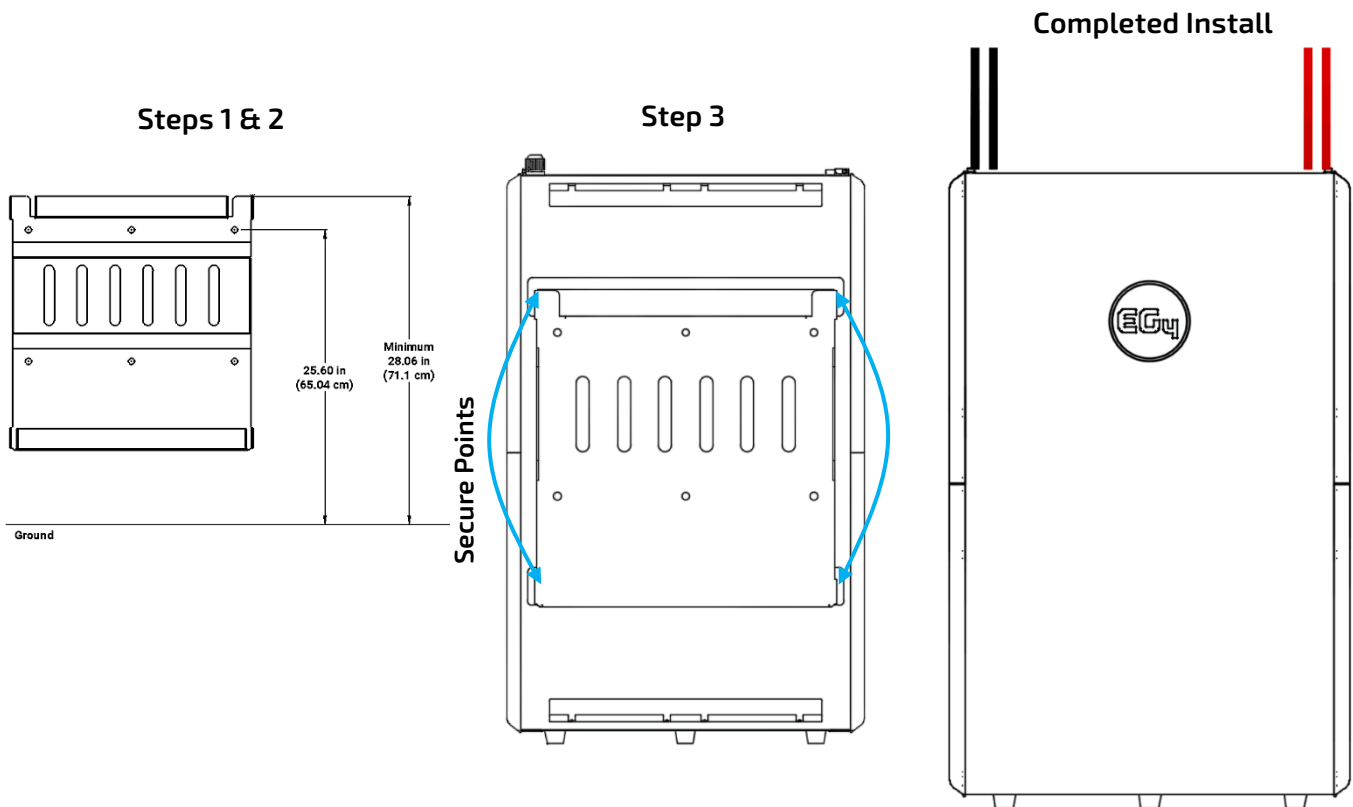

Figure 12 – WallMount Installation without Conduit Box
3. Attach the WallMount battery pack to the mounting bracket. To accomplish this, lift the battery up and hook the flange on the back of the battery into the flange on the front of the mounting bracket. Secure the battery to the mounting bracket with the 4 included side screws (see Figure 12)